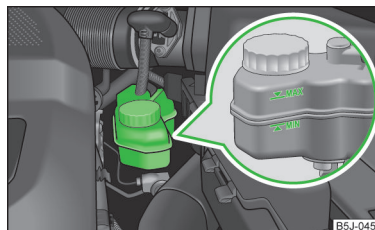

Fig. 138
- 🚫 Do not continue your journey if the fluid level has fallen below the MIN marking » Fig. 138 on page 152 - there is a risk of an accident. Seek help from a specialist garage.
The brake fluid reservoir is located in the engine compartment » Fig. 138.
- Check the level of brake fluid in the reservoir » Fig. 138.